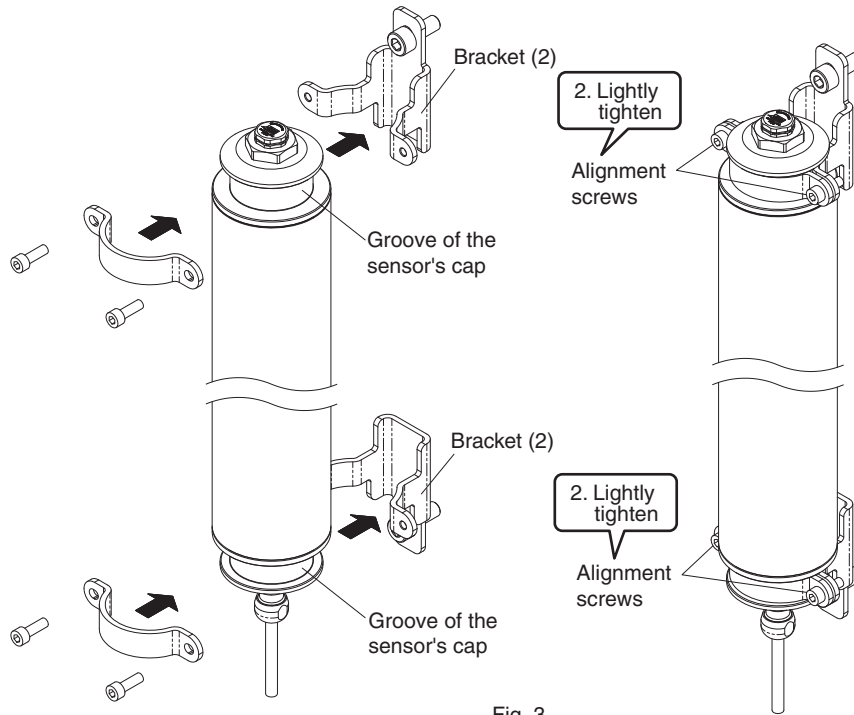

Fig. 3
3. Fit the groove of the sensor's cap to the bracket (2), mount the bracket (1), and tighten the alignment screws until the sensor no longer drops (Fig. 3).